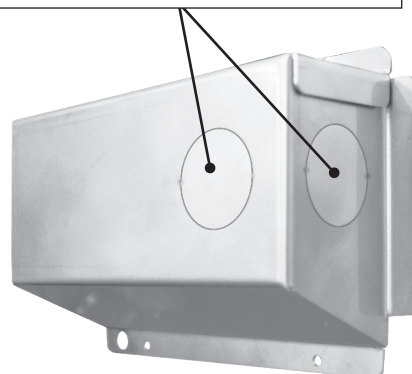

Fig. 26-2 Junction box knockouts
2. Remove the junction box located on the rear of the unit. Select and remove a knockout from the junction box that will best suit your electrical setup. Route the wiring through the selected knockout opening. See Fig. 26-2.